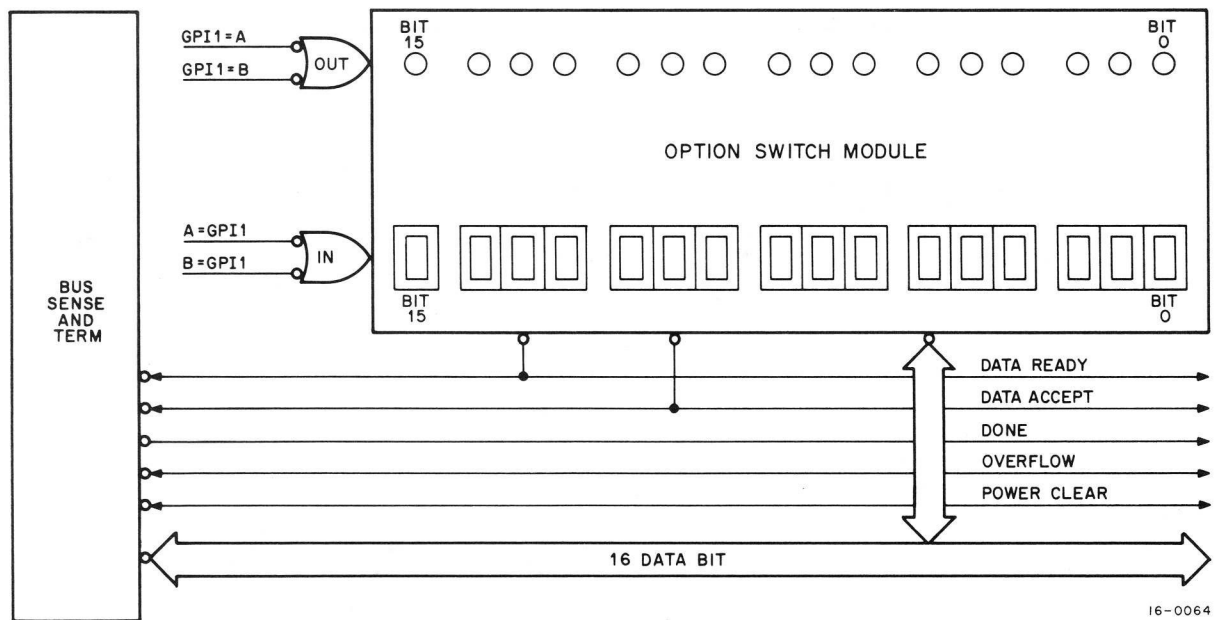

Figure 5-5 Option Switch Module M7334, Application Diagram
5.1.2.3 Option Switch Module M7334 — To run the option diagnostic, steps 5 through 7 of Paragraph 5.1.4 must be completed and the basic diagnostic must have run without error. The M7334 module (Figures 5-5 and 5-6) has a 16-bit Data Register and 16 switches. Each switch identifies a particular option to the diagnostic program. In only one application is more than one switch used at a time. To test an option, find the desired switch setting in Table 5-2 and assert the switch to a 1 (white dot showing). In situations where data is to be examined, the Data Register will contain the data read.